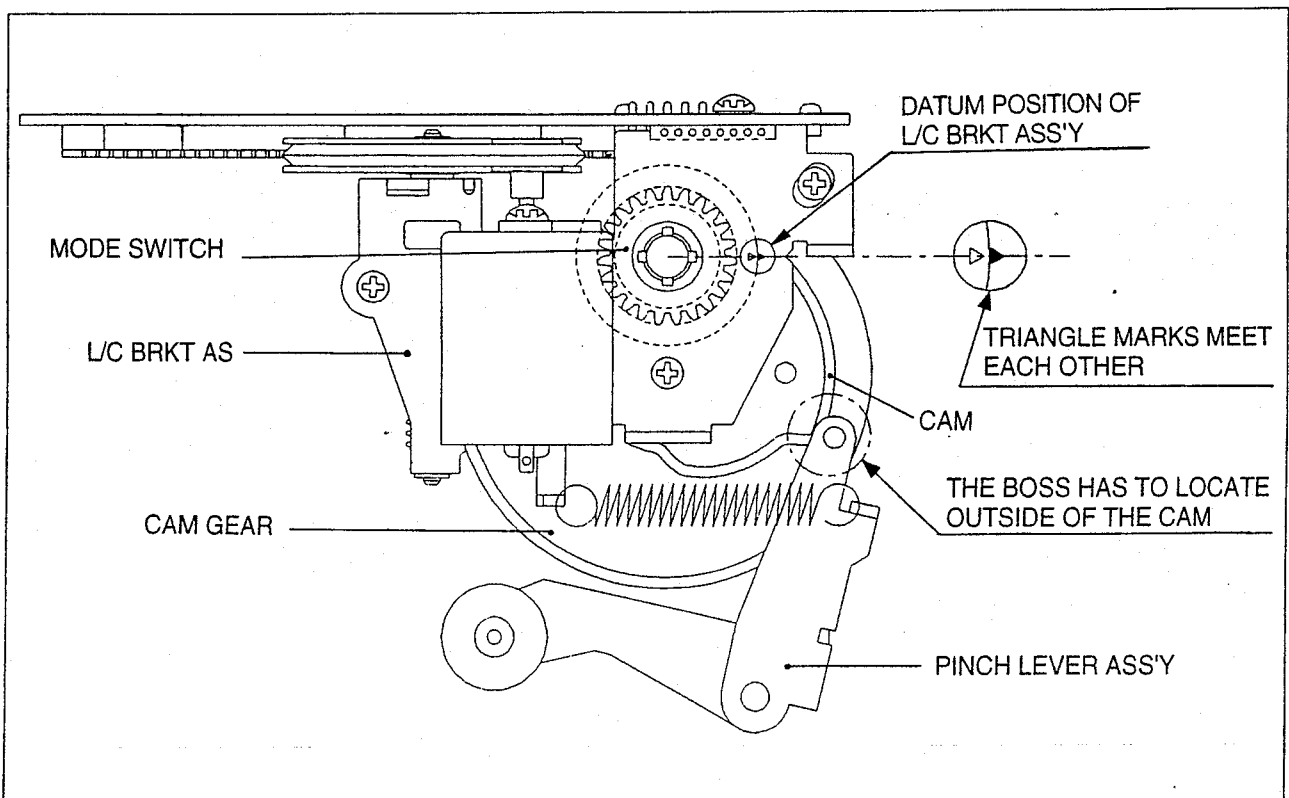

Fig. 4-2 DATUM POSITION OF L/C BRKT AS & PINCH LEVER AS
- Pay attention to be located the BOSS of the PINCH LEVER ASS'Y to the outside of the CAM. (See Fig. 4-2)
- 2) Separate the CAPSTAN EFC ① from the CONNECTOR of the L/C BRKT ASS'Y ④.
- 3) Separate the L/C-DRUM CONN. AS ② from the CONNECTOR of the DRUM ASS'Y.
- 5) After removing the 3 screws ③ from the L/C BRKT ASS'Y.
- 7) Pay attention to the assembly datum position, when reassembling the MODE SWITCH. (Refer to Fig. 4-2)
- 3) There are two triangle mark in the MODE SWITCH. When installing the L/C BRKT ASS'Y, make sure that the one marks meets the other in the Eject Mode as shown in Fig. 4-2.
- 4) Make sure the that the BOSS of the PINCH LEVER ASS'Y is located outside of the CAM of the CAM GEAR in the Eject Mode as shown in Fig. 4-2.